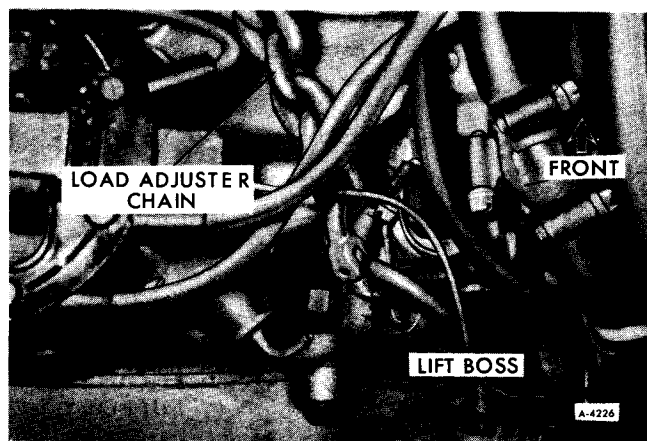

Figure 9—Engine Rear Lift Location
4. Referring to figure 9, install bolts "A" and "B" with nuts and lock washers. Torque both nuts to 45 ft. lbs.